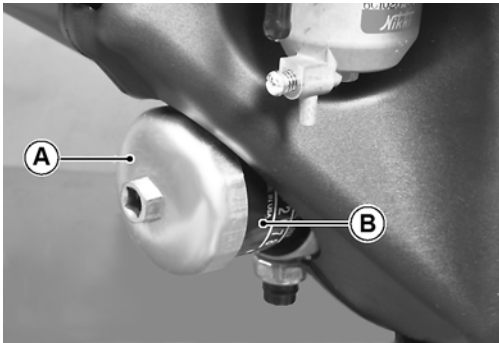

Fig. 25 Remove Oil Filter
Clean the area around filter. Using a filter wrench, strap wrench or other suitable wrench (A), remove the filter (B) from the engine and allow the oil to drain. The 'O' rings may remain on engine or filter (Ref Fig. 25 on page 22)